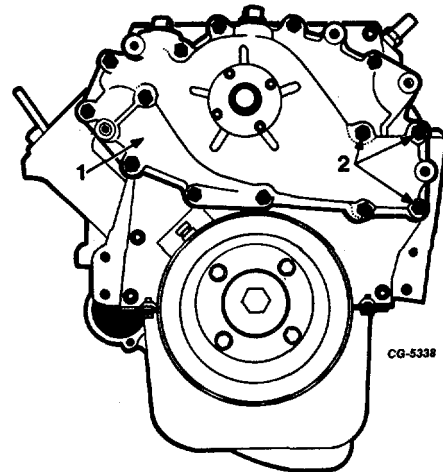

Fig. 45 Water Pump Removal
50. Remove bolts and lockwashers securing water pump to engine, Figure 45. Remove water pump and gasket.